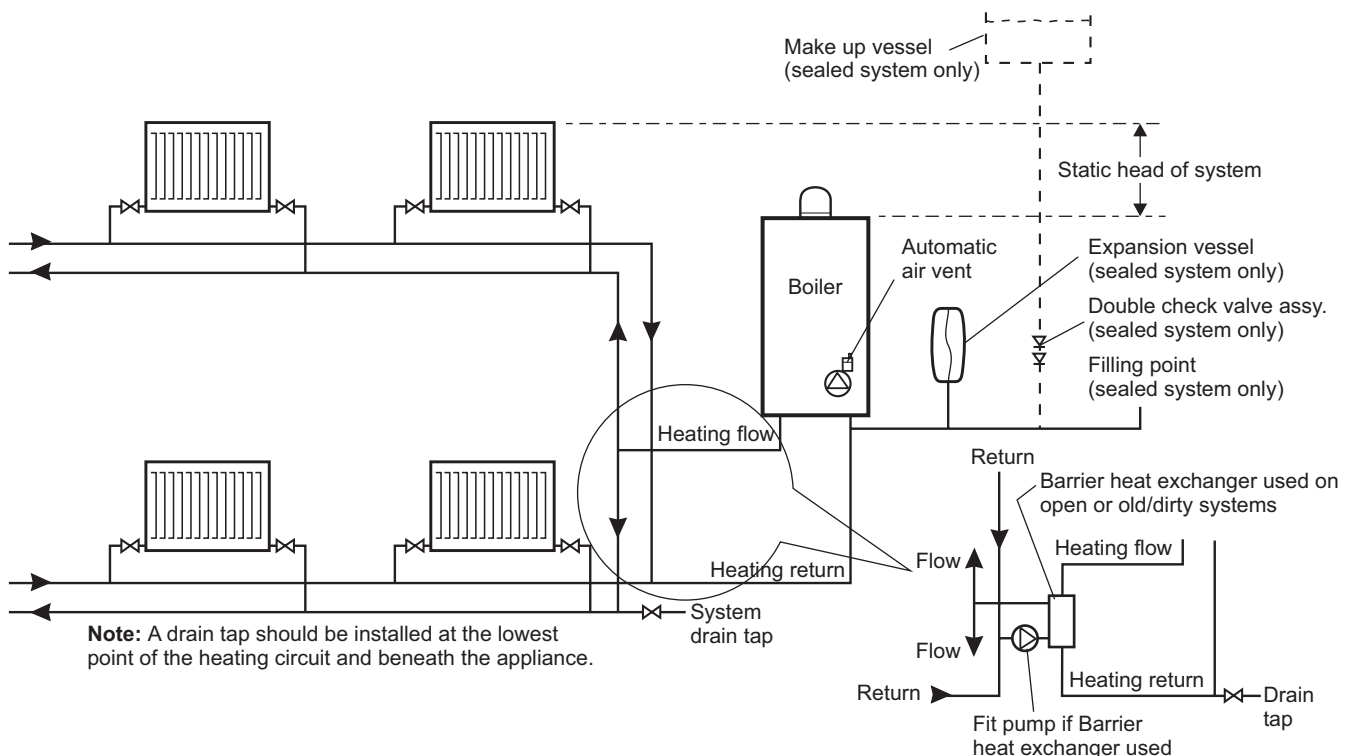
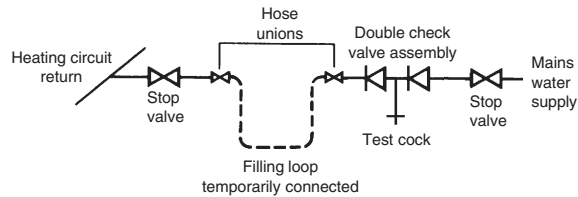

Fig. 8
Fig. 9
### 3.8 CENTRAL HEATING SYSTEM - Fig. 8
If the boiler is to be used with an open central heating system refer to Fig. 8 and use a barrier heat exchanger (i.e. separates the boiler primary circuit from the open heating circuit).
**Sealed system volume** - An expansion vessel **is not** incorporated into the boiler. An expansion vessel **must be** fitted in the position shown in Fig. 8. To check correct operation of the expansion vessel the system pressure should not be more than 3.5 bar when the system is at maximum operating temperature (for further guidance refer to BS 7074:1), For example an 8 litre expansion vessel is suitable for a sealed system of 80 litres.
### 3.9 FILLING THE SEALED CENTRAL HEATING SYSTEM - Figs. 9
The system design pressure (cold) should be set to 1.0 bar. This pressure is equivalent to a static head (see Fig. 8) of 10.2 metres of water.
Provision should be made to replace water lost from the system. This can be by manual or automatic means, as shown in Fig. 9. The position for connecting an automatic make-up vessel is indicated in Fig. 8. A double check valve assembly must be used.
Filling of the system must be carried out in a manner approved by the local Water Undertaking. Where allowed, the system may be filled via a temporary connection as shown in Fig. 9. After filling, always disconnect the flexible hose of the filling loop.
It is essential that the central heating system is thoroughly cleaned and flushed when fitting an Alpha CD50S or CD70S boiler. Failure to do so will invalidate the warranty. If this is difficult because the system is old/dirty refer to Section 3.8, Fig. 8 gives consideration to using a barrier heat exchanger.